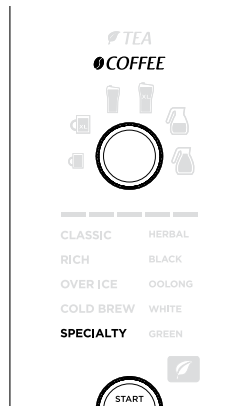

Fig. 18
- 4 Turn the START/SELECT dial to choose SPECIALTY (Fig. 18). If brewing tea, press the Tea button  to toggle to the tea menu, and use the dial to choose your tea type. To change your brew style while in the tea menu, press the Tea button .